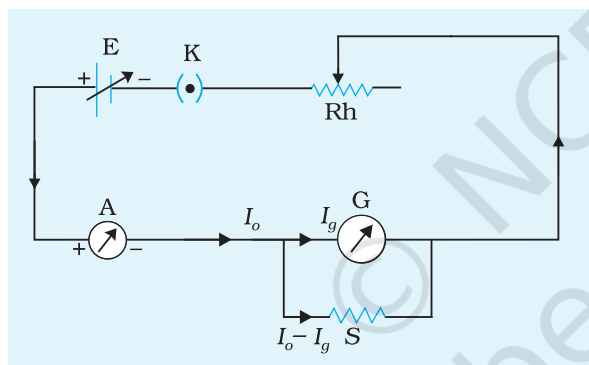

Fig. E 7.1 Circuit to verify conversion of galvanometer into an ammeter
6. Let the calculated length of the wire be 10 cm. Then cut 3-4 cm extra and put it in parallel to the galvanometer and complete the circuit as shown in Fig. E 7.1.